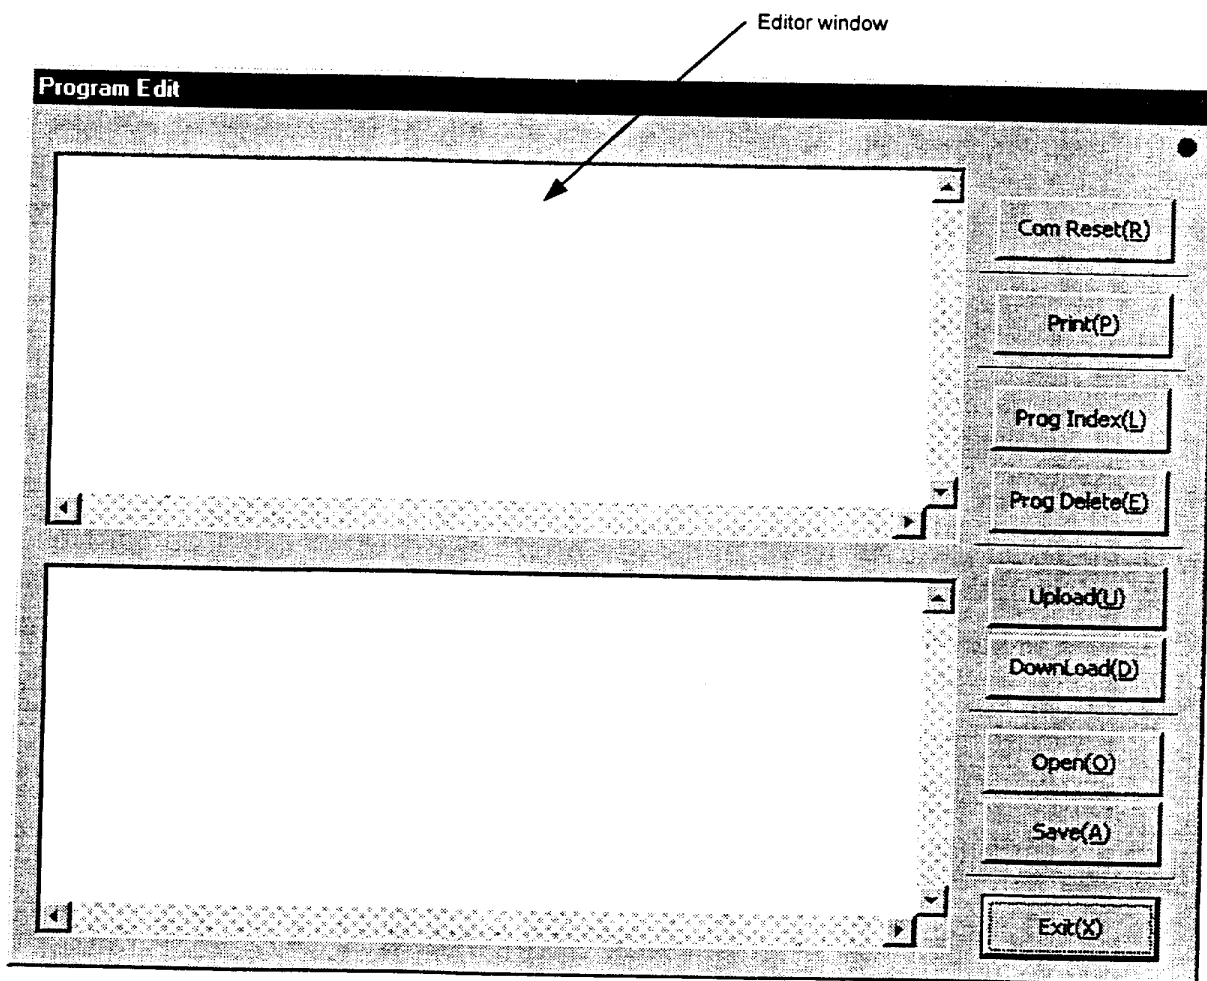

Figure 7.33 "Program Edit" dialog box
Click "Edit (E)" in the "Program Manager" menu to display the "Program Edit" dialog box (see Figure 7.33).